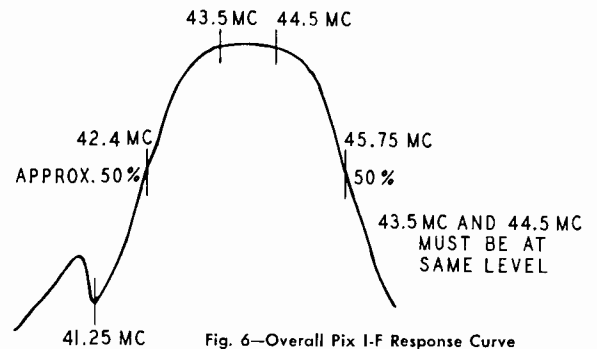

Fig. 6—Overall Pix I-F Response Curve
3. Set channel selector to Channel 13. Connect sweeper with very short leads through a 10 K mmf disc ceramic capacitor to mixer grid (lead of a 10 K resistor which is accessible through a hole located on front of the tuner). Readjust sweep output for 4.0V P-P, adjust 41.25 mc trap (bottom of L-200) so that notch is at marker, adjust mixer plate coil (L-9 primary) and input grid coil (top of L-200) for maximum gain and symmetry with 45.75 mc marker at 50%. (Figure 6.)